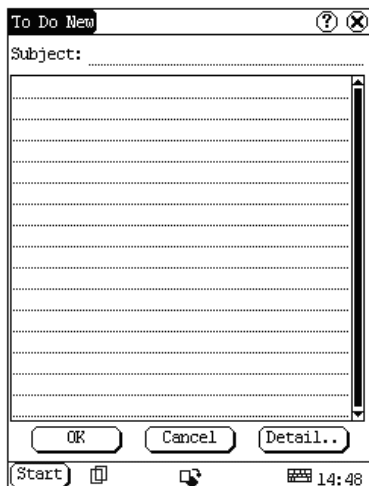

Fig 4-20
- 1) In the To Do interface, click [New] button to open the To Do New interface. See Fig 4-20.